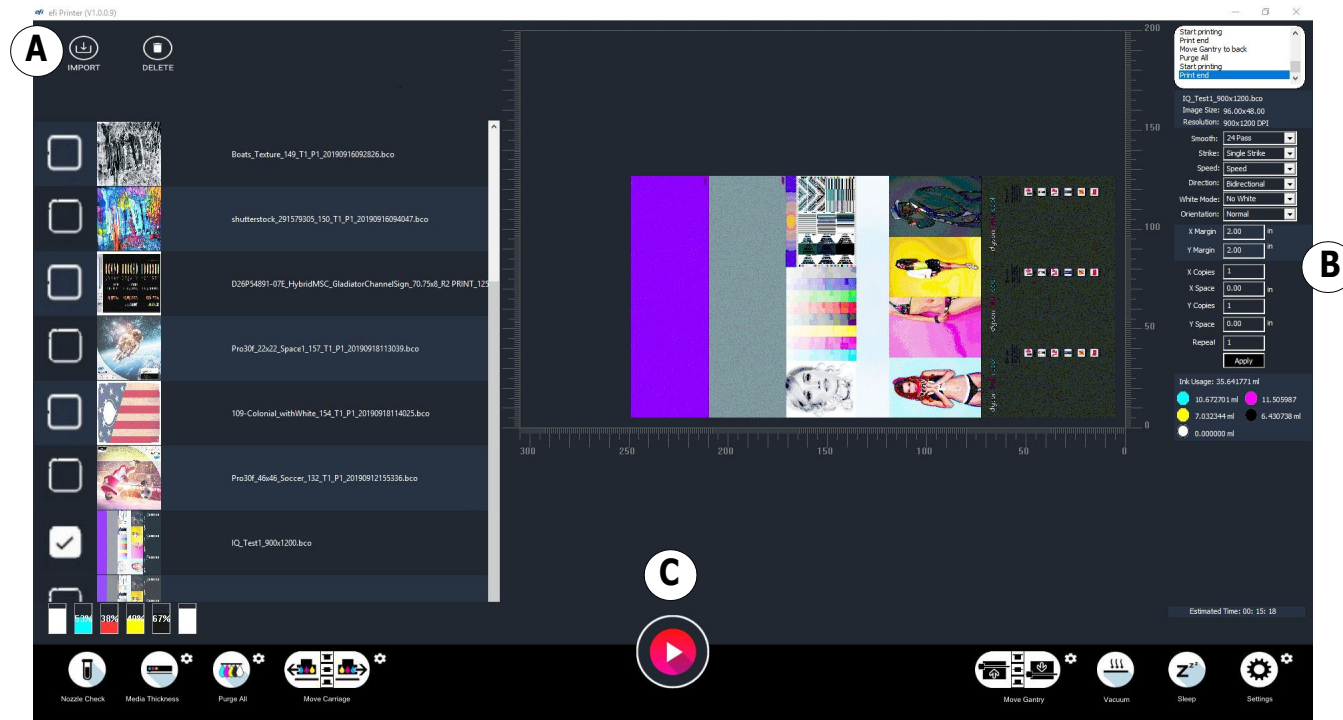

Figure 6-1 Print File from EFI Main Interface
1. Click **Import** to load the file to print. (See Figure 6-1, item A.)
3. Enter the number of copies. (See Figure 6-1, item B.)
4. Click **Print** button to print. (See Figure 6-1, item C.)